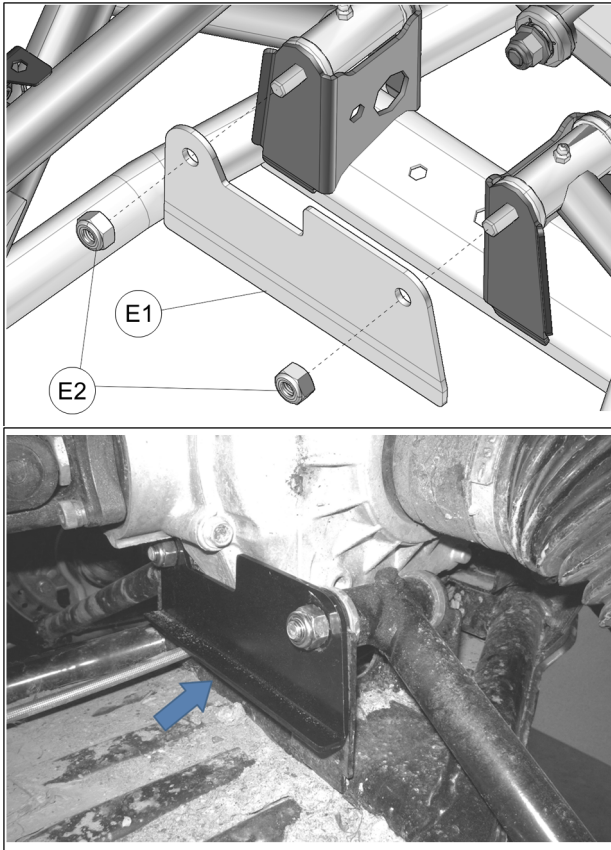

Fig. 14
14. Insert the suspension stiffener plate (E1) on the lower a-arms mounting bolts. Secure the stiffener plate using the nylon nuts (E2) provided. Tighten nuts to 50 N•m [37 lb•ft] of torque. Refer to Fig. 14